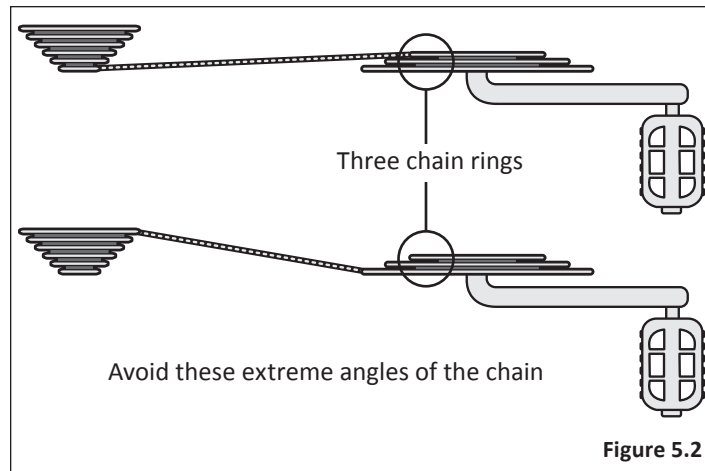

Figure 5.2
- For bicycles with 3 front chain rings; avoid “Cross Chaining”, which is the position when the chain is in the smallest cog in the front, or the combined with the inner or smallest chain ring in the front, or the largest cog in the rear and the outer or largest chain ring in the front. These gear positions put the chain at the most extreme angle and can cause premature wear to the drivetrain. Bicycles with 3 front chain rings have enough gear “overlaps” that these gears are not needed. **Figure 5.2**